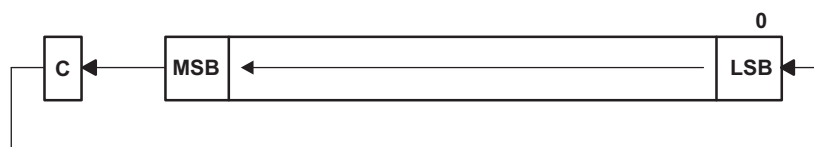

Figure 4-45. Destination Operand-Carry Left Shift
Description The destination operand is shifted left one position as shown in Figure 4-45. The carry bit (C) is shifted into the LSB and the MSB is shifted into the carry bit (C).